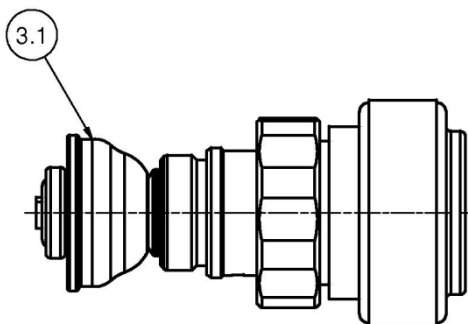

Figure 12 – Valve insert with inverted diaphragm (3.1)
- Screw in the valve cone (3) with inverted diaphragm (3.1) by screwing it clockwise into the valve insert (see figure 12).